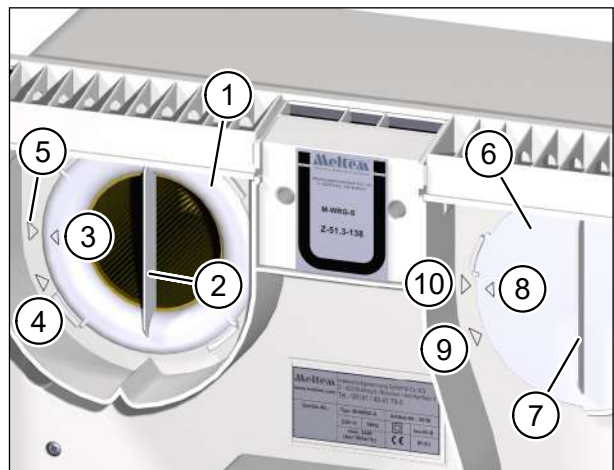

Fig. 18: Remove air filters
- ▶ Turn the filter ring (item 1 in Fig. 18) using the hand grip (item 2 in Fig. 18) anti-clockwise until the arrow on the filter ring (item 3 in Fig. 18) lines up with the arrow at the removal position (item 4 in Fig. 18).
- ▶ Turn the filter cover (item 6 in Fig. 18) using the hand grip (item 7 in Fig. 18) anti-clockwise until the arrow (item 8 in Fig. 18) on the filter cover lines up with the arrow at the removal position (item 9 in Fig. 18).
- ▶ Make sure that the filter ring is oriented so that the arrow on the filter ring (item 3 in Fig. 18 on page 33) lines up with the arrow for the removal position (item 4 in Fig. 18 on page 33).
- ▶ Turn the filter ring clockwise until the arrow on the filter ring (item 3 in Fig. 18 on page 33) lines up with the arrow for the locking position (item 5 in Fig. 18 on page 33).
- ▶ Check the position of the filter ring and filter cover. The hand grips must be vertical and the arrows on the filter ring and filter cover must line up with the arrows for the locking position (see Fig. 18 on page 33).